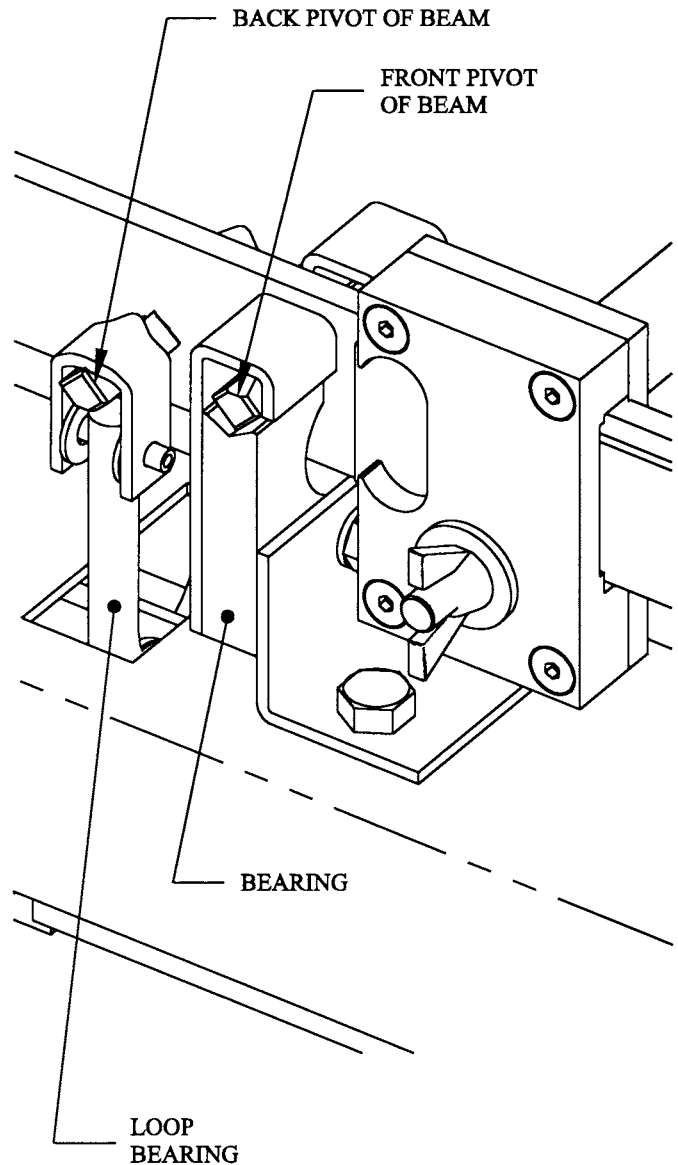

FIG. 12
C) Insure that the beam is sitting properly in bearing. The loop bearing should be placed on the back pivot of beam. See Fig. 12.